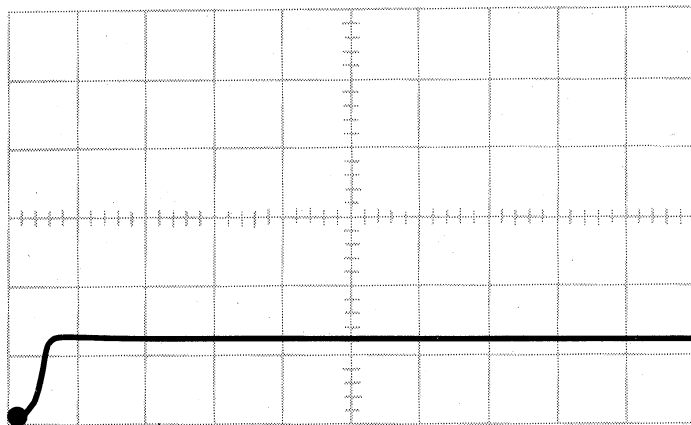

Figure 1-9
- () Adjust the SWEEP VOLTAGE control to produce a line across the bottom of the screen as shown in Figure 1-9.